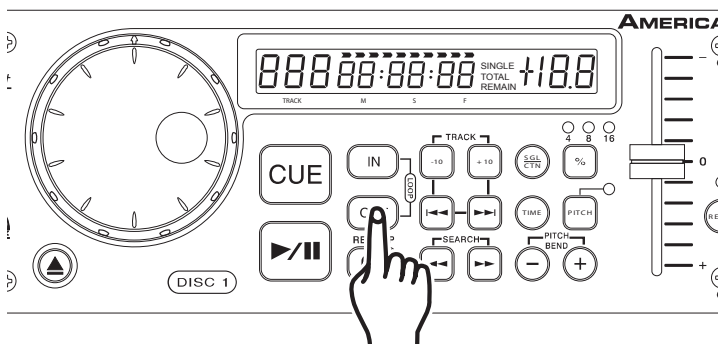

Figure 18
1) Press PLAY/PAUSE BUTTON (16) to activate playback mode.
3) Press the LOOP OUT BUTTON (10) to set the ending point for your Loop (Figure 18). The LOOP OUT and LOOP IN BUTTON's will stay lit indicating a Loop is playing. Press the LOOP OUT BUTTON again to stop the Loop.